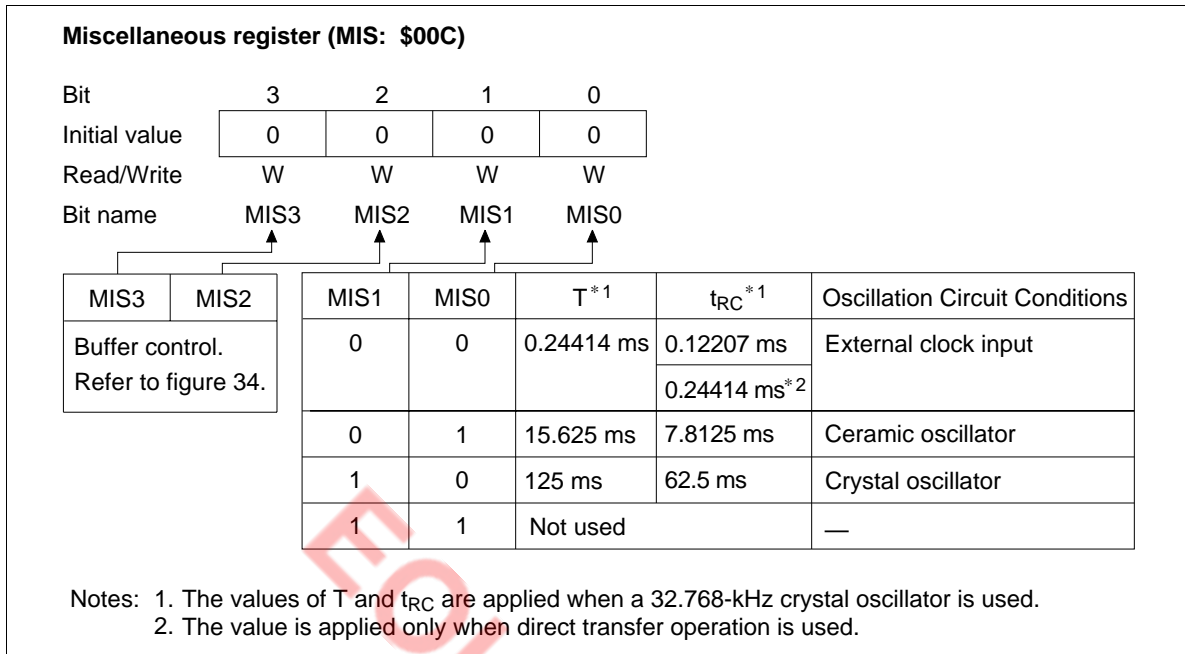

Figure 15 Miscellaneous Register (MIS)
Interrupt Frame: In watch and subactive modes, ϕ_{CLK} is applied to timer A and the $\overline{\text{INT}}_0$ circuit. Prescaler W and timer A operate as the time-base and generate the timing clock for the interrupt frame. Three interrupt frame lengths (T) can be selected by setting the miscellaneous register (MIS: \$00C) (figure 15).